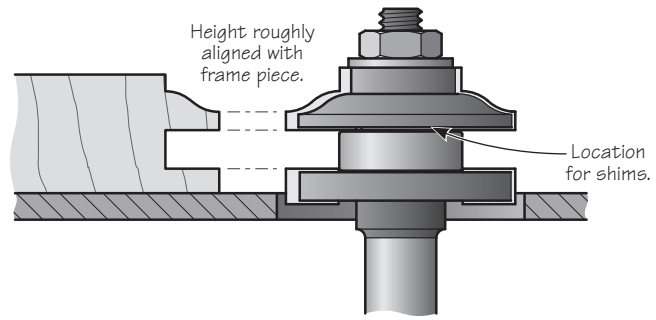

Figure 7: Bit assembled for coping cut.
- Reassemble the router bit for the coping cut (i.e., cutting the end grain of the rails and mullions), as shown in **Figure 7**. Set the bit height to approximately match a previously cut frame piece. Run a length of scrap through to test the cutter spacing.